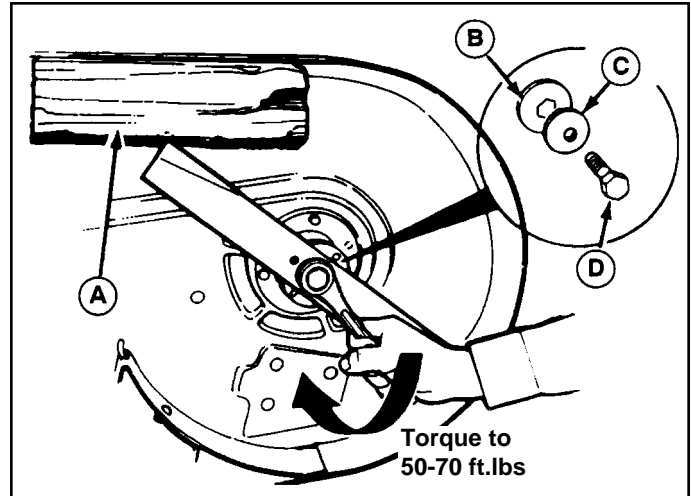

Figure 22. Installing The Blade
- Reinstall each blade with the tabs pointing up toward deck as shown in figure 22. Secure with a capscrew (D), cup washer (C) and spline washer (B). Use a wooden block to prevent blade rotation and torque capscrews to 50-70 ft.lbs. (67-95 N.m.).